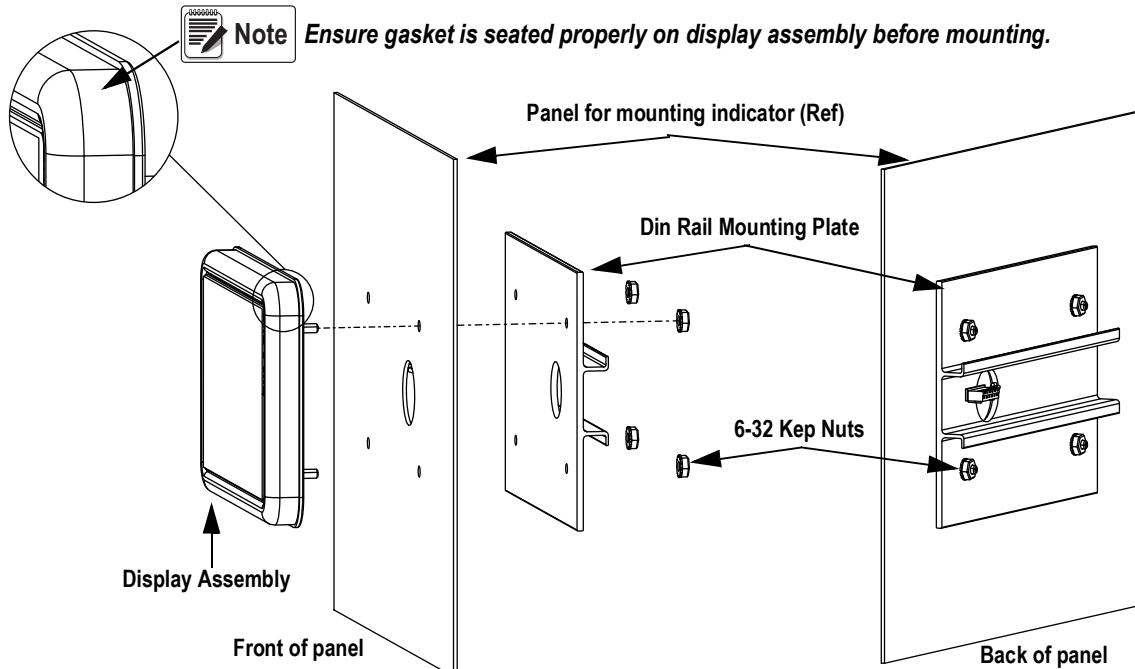

Figure 2-3. Mounting Display Assembly
4. Loosen and remove the four kep nuts securing the DIN rail and display assembly to the panel, see Figure 2-3 on page 13.